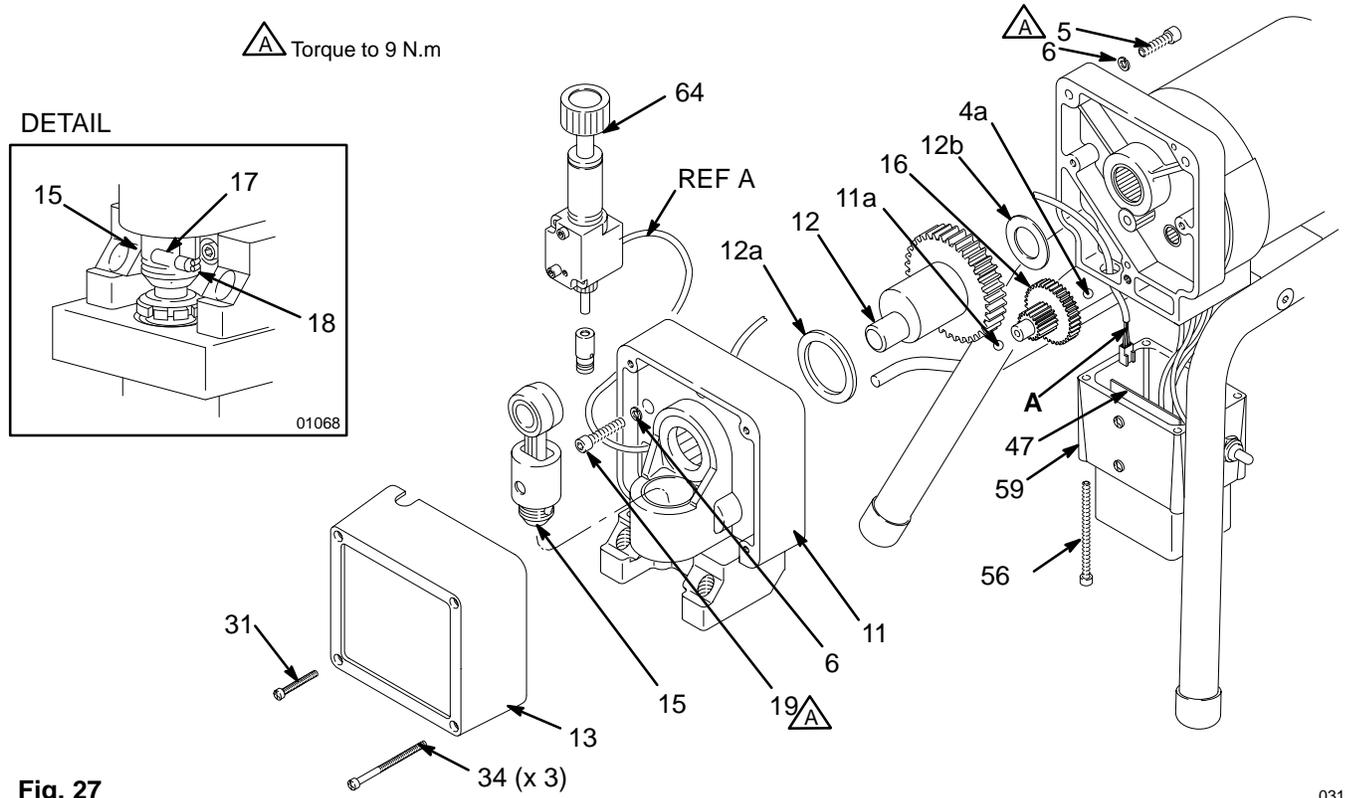

Fig. 27
2. Remove the pressure control (64). See page 32.
3. Turn the displacement pump rod (107) so the pin hole aligns with the bottom drive housing screw (19). See the DETAIL in Fig 27. Remove the three drive housing screws and lockwashers (19,6).